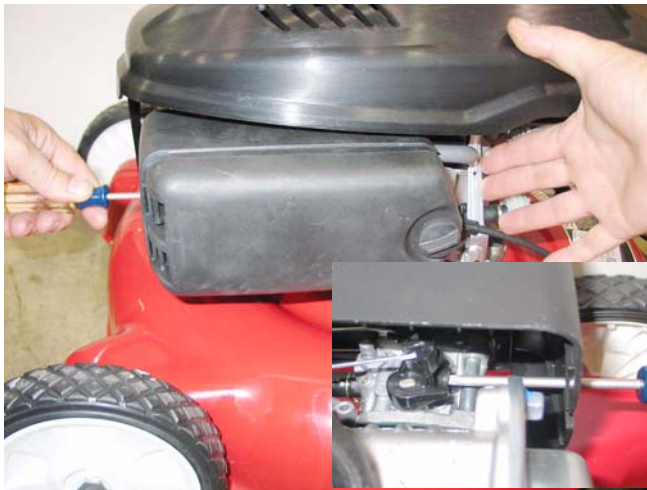

Figure 4.50
**NOTE:** Idle speed: If applicable, is 1,800 RPM  $\pm$  160 RPM, set using throttle stop screw. See Figure 4.50.